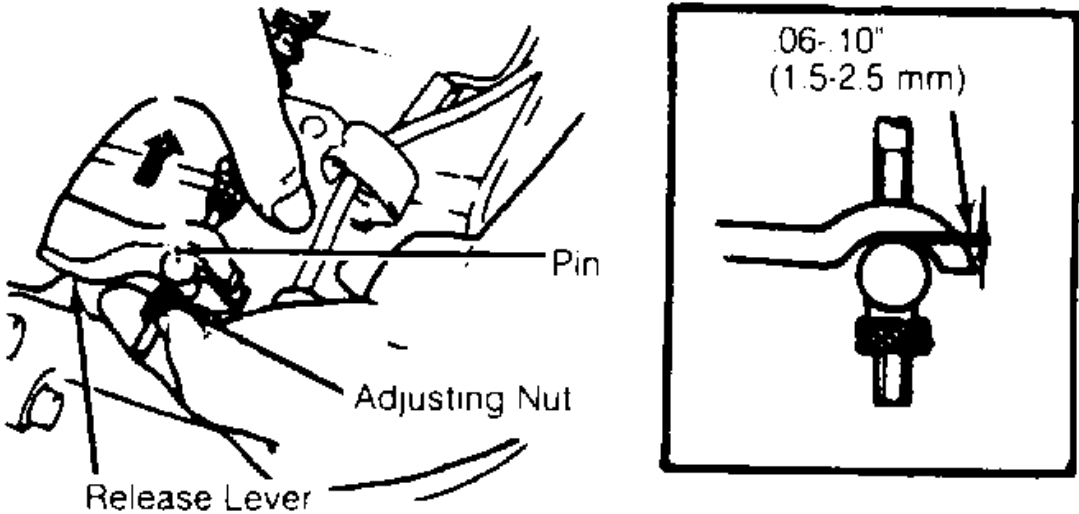

Fig. 2: Checking Release Lever Clearance
- If free play is not within specification, rotate clutch cable adjustment nut at release lever to obtain correct pedal free play. See Fig. 2 .